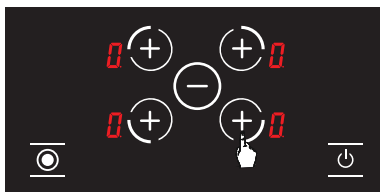

Figure 6
2. Press the appropriate hotplate selection button. The label  for the corresponding hotplate will be displayed after the first touch. (See Fig. 6.) In addition, the corresponding hotplate selection button functions as a button after the first touch.